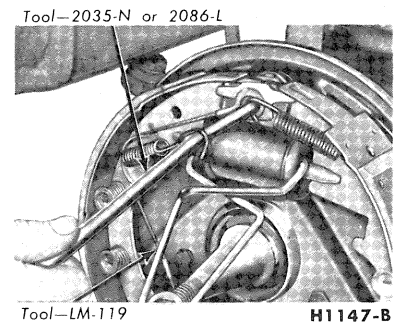

FIG. 5—Typical Retracting Spring Installation
5. Remove the secondary shoe to anchor spring with the tool shown in Fig. 5. With the same tool, remove the primary shoe to anchor spring and unhook the cable anchor.
5. Install the primary shoe to anchor (short) spring with the tool shown in Fig. 5.
7. Install the secondary shoe to anchor (long) spring (Fig. 5).